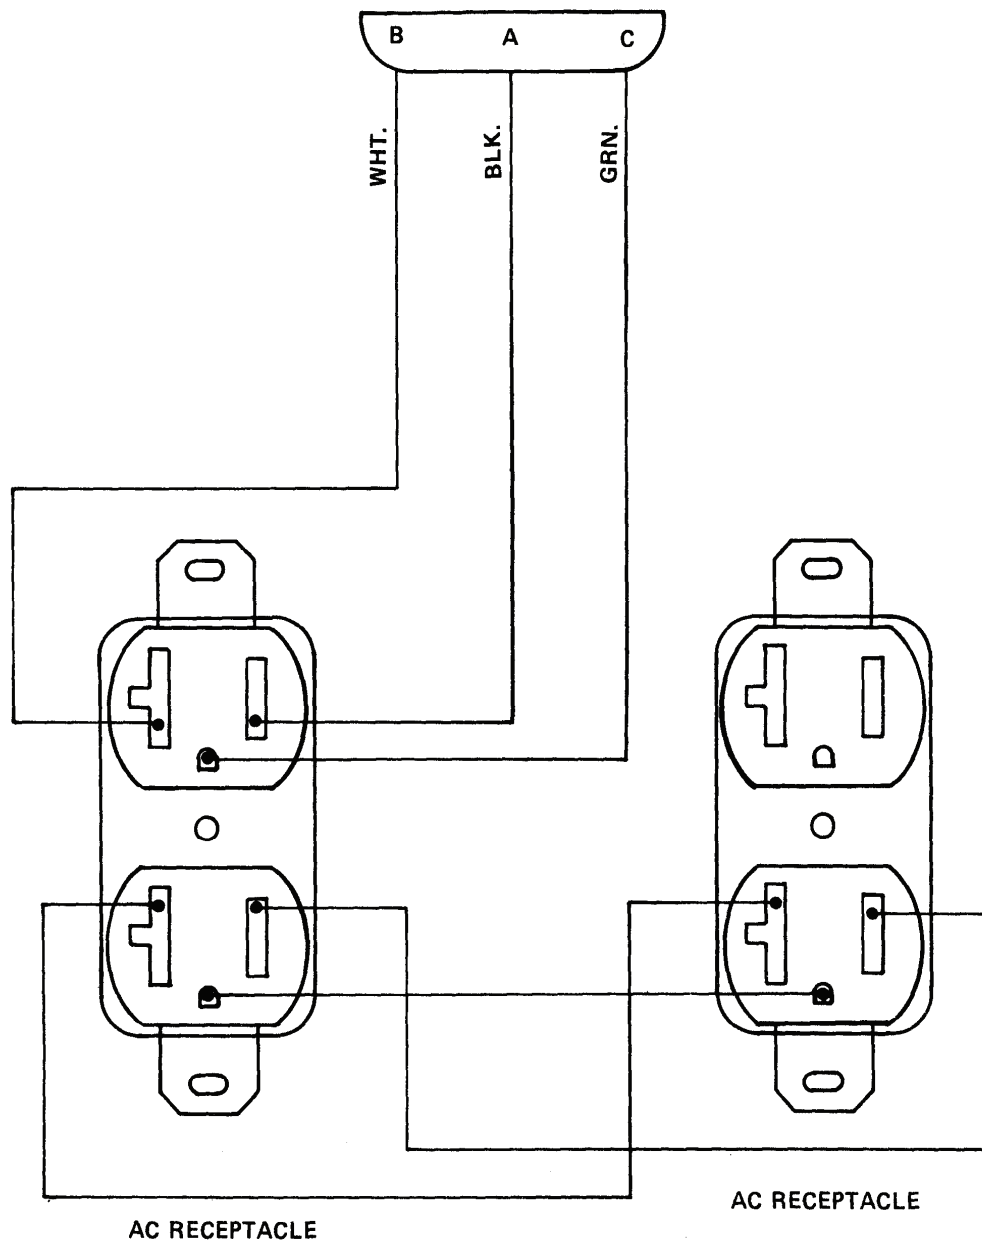

Figure 2. Duplex Receptacle Wiring Diagram
7. Install cable assembly (7) in receptacle box.
8. Install gland (6) in place and secure with gland nut (5).
9. Remove tags and connect wires in accordance with Figure 2.
10. Install duplex receptacle (4) on door assembly (2) and secure with screws (3).
11. Place door assembly (2) on box and secure with screws.
Table 1. DUPLEX RECEPTACLE CONTINUITY CHECKS (see Figure 2)